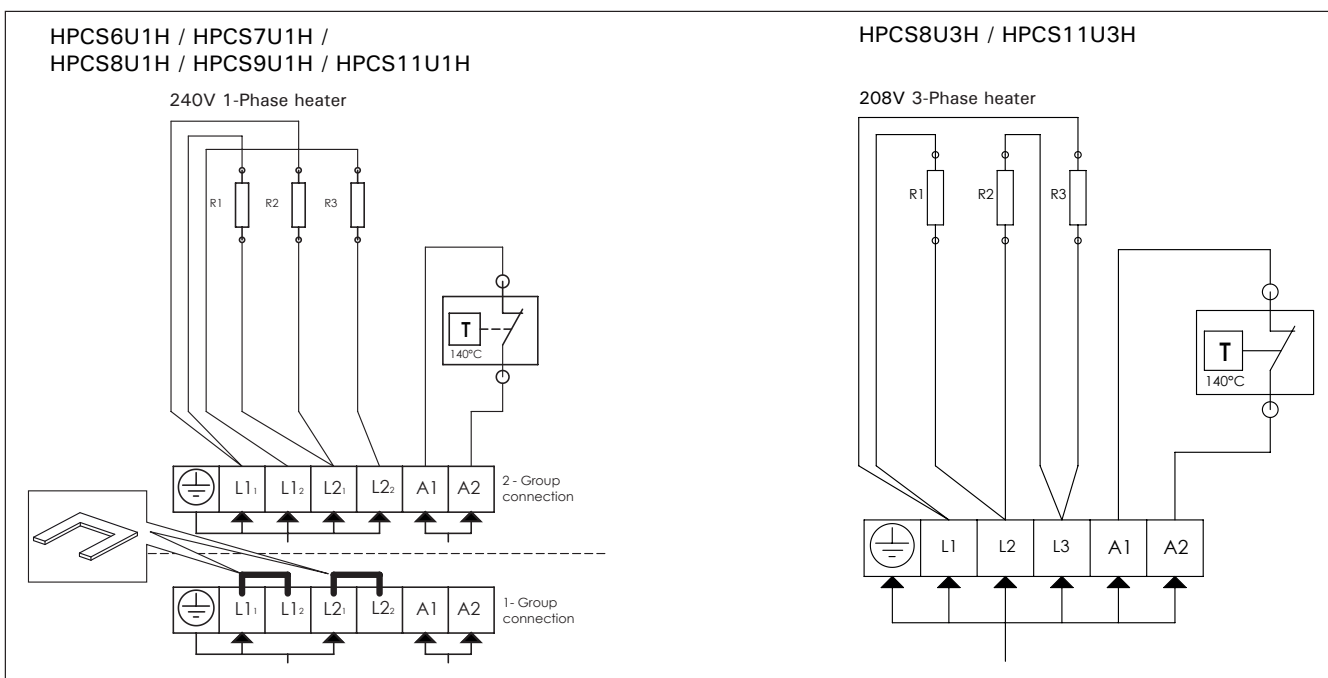

Figure 7. Electrical connections of the heater
2. See applicable wiring diagram for heater model (figure 7, see control unit manual for detailed instructions how to connect the heater and the control unit). Heater must be permanently installed by using seal tight conduit between the heater and the wall of the sauna room (pigtailes or plugs are not allowed in the sauna room). Wiring must be done by a licensed electrician, who must follow wiring diagram provided and adhere to local codes. Use proper AWG rated wire size and use copper wire suitable for 194 °F (90 °C) within sauna walls. Use grounding terminals provided in sauna heater and control unit to properly ground the equipment as per NEC and local codes.